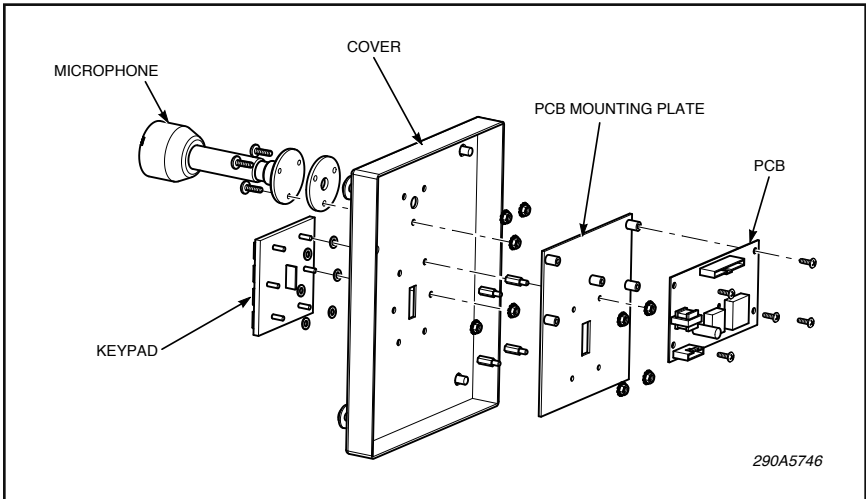

Figure 2.
C. Keypad Replacement (Figure 2)
2. Remove the (5) 6-32 screws retaining the microprocessor printed circuit board to its mounting plate and move it to the side to access the mounting plate retaining nuts.
4. Remove the (4) 6-32 nuts to remove the PCB mounting plate from cover.
5. Remove the (4) 6-32 hex standoffs that retain the keypad to the cover.
6. Remove the (2) 6-32 nuts that retain the keypad to the cover.
7. Remove the keypad from the cover, keeping hold of the (6) flat washers attached to the keypad mounting studs.
8. Place the (6) flat washers over the studs on the replacement keypad and reverse steps to re-assemble the unit.
D. Microphone Replacement (Figure 2)
5. Remove the (4) 6-32 nuts to remove PCB mounting plate from cover.
6. Remove the (3) 8-32 hex nuts that retain the microphone to the cover.